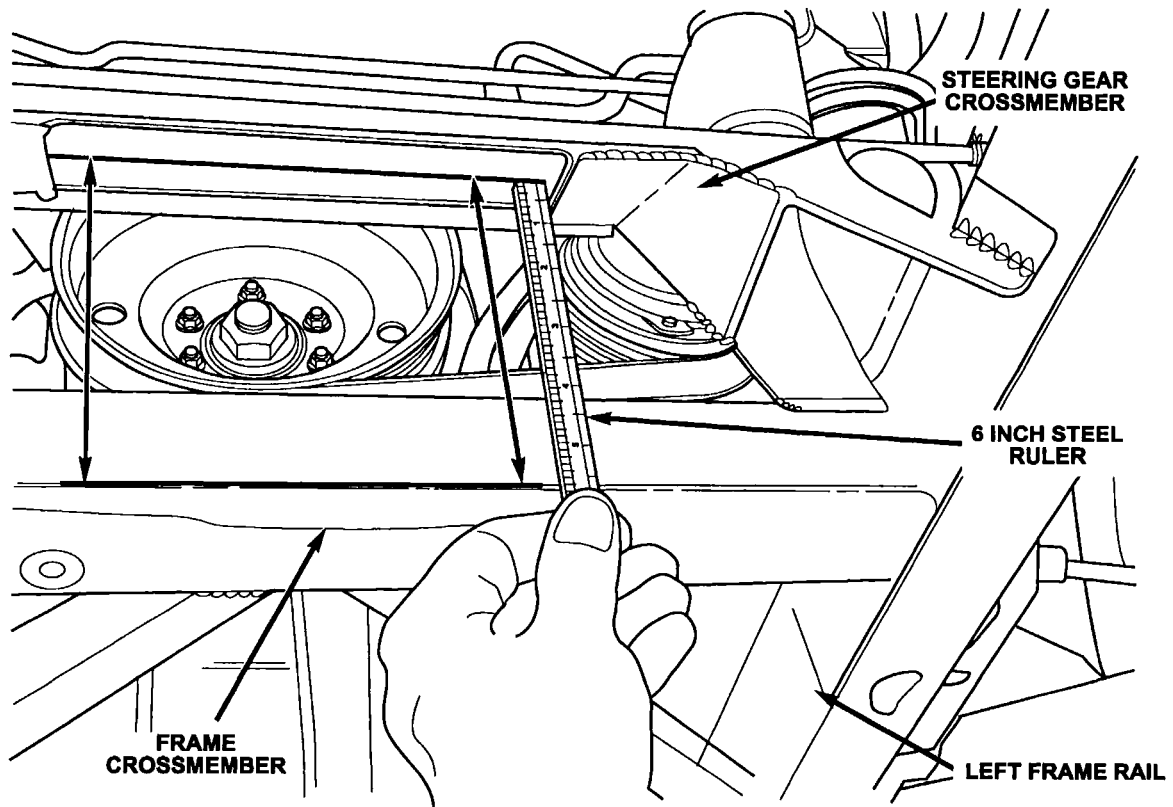

Figure 3
5. Using a 6-inch steel ruler, measure the distance from the inside rear edge of the steering gear crossmember to the lower edge of the frame crossmember. Perform this measurement procedure on the right and left side of the steering crossmember (Figure 3). Record these measurements for future reference.